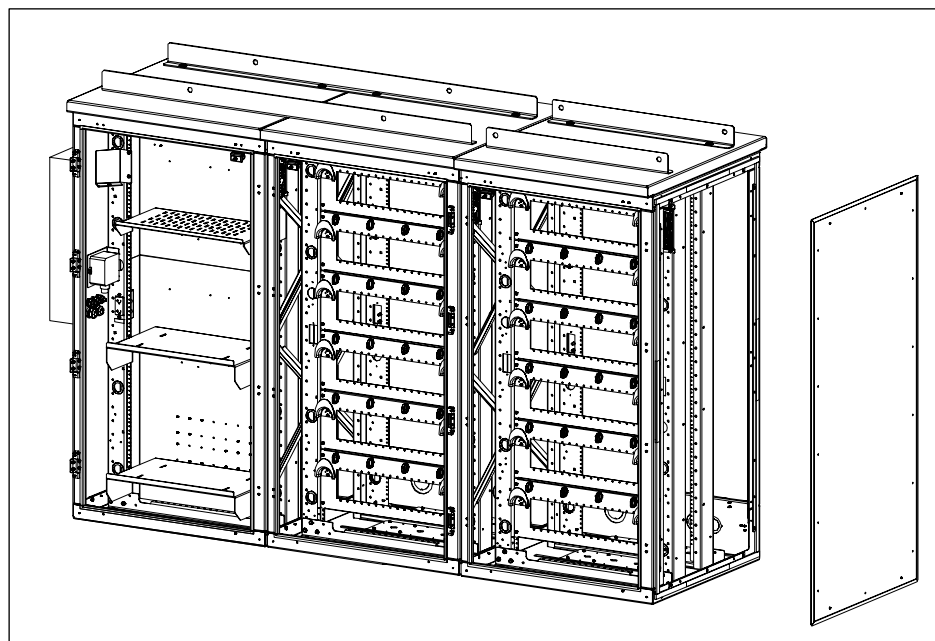

Figure 22 Mount Side Panel
4. Mount the side panel removed previously onto the side of the ME-x bay (Figure 22).